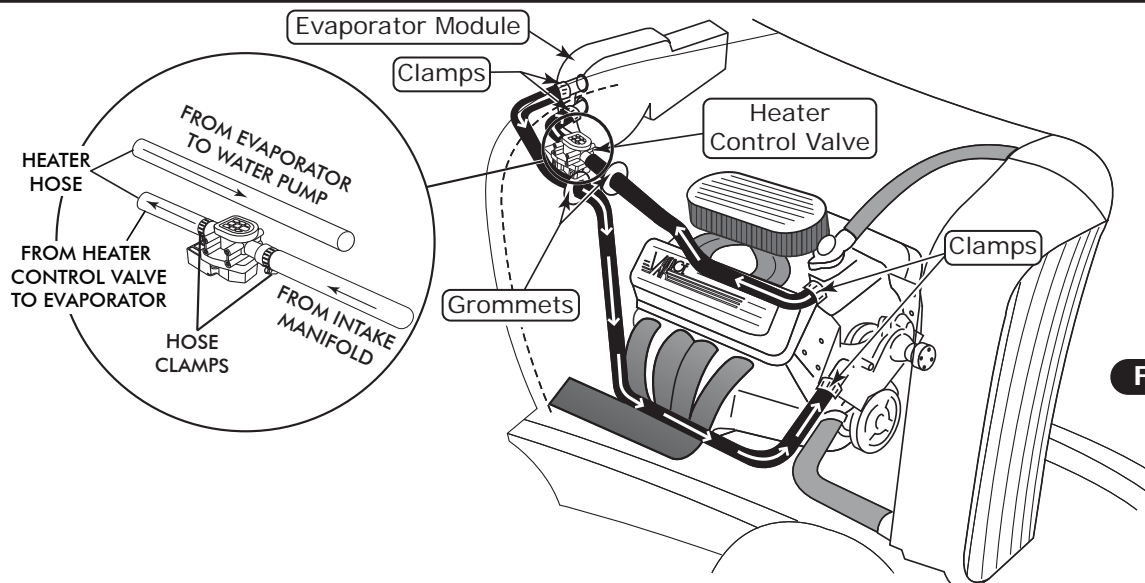

Figure 1
1. After the evaporator is in place, run 5/8" heater hose from the heater tube nearest the blower on the evaporator through the firewall or behind the kick panel through the floor to the intake manifold heater connection. Install the heater control valve in this line (pressure) (See Figure 1, below). **NOTE: Be sure to follow flow arrow on heater control valve.**
7. Install the duct hoses as shown in Figure 1, Page 15. Stretch the duct hose tightly to the dash vents. Trim to ensure that the duct hose is tight, with as few kinks or sharp bends in the hose as possible. This will ensure maximum airflow.